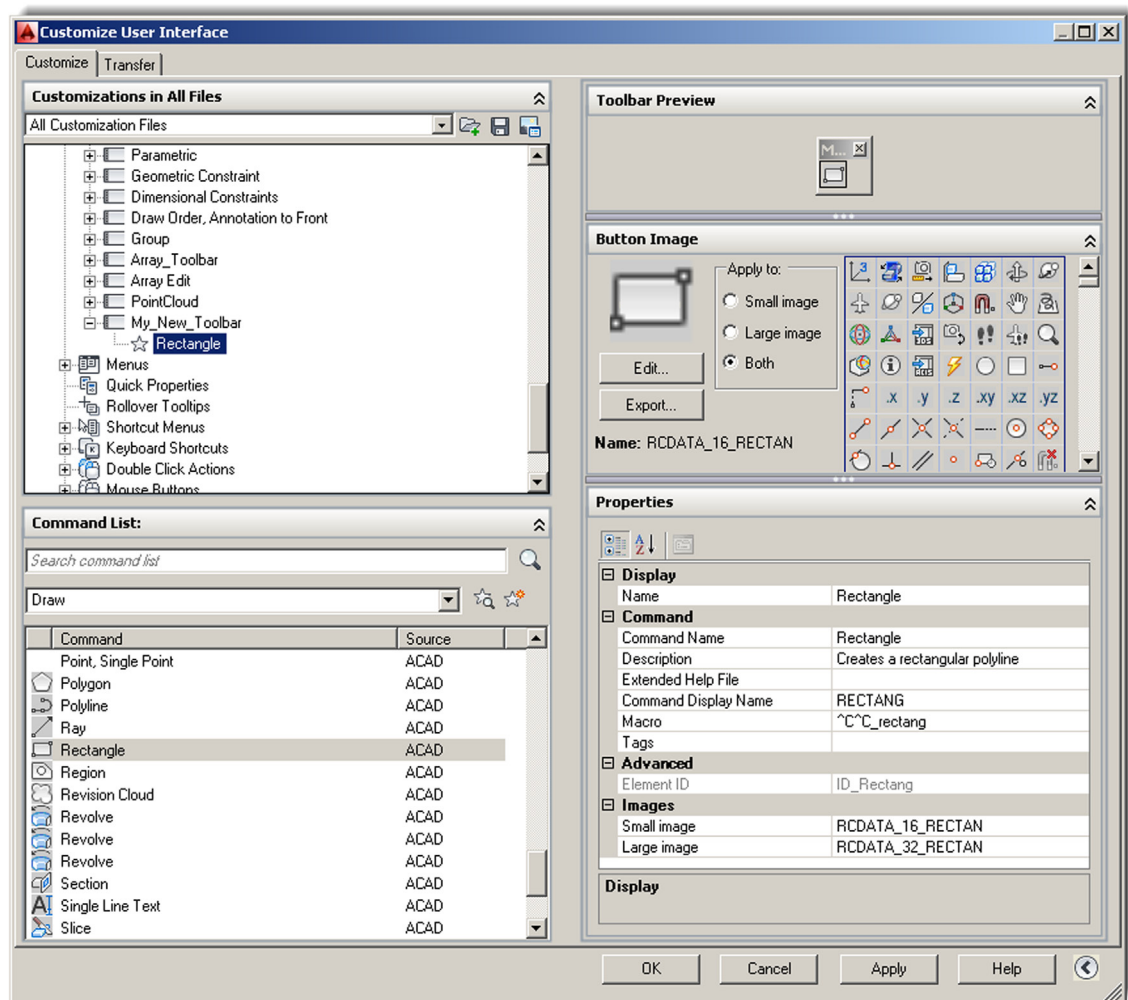

FIGURE 14.20
- Step 2.** On the bottom left begin selecting the commands you want your new toolbar to have (you can filter the commands to find them easier), and drag them into the new toolbar name on the upper left. As soon as you begin doing this, a toolbar preview and Button Image category appear on the right-hand side, as seen in Figure 14.20, when “rectangle” was added as the first command.